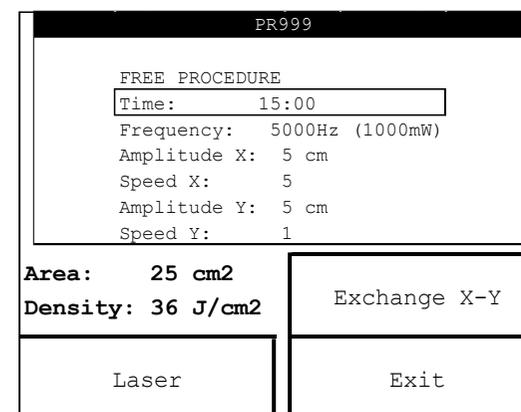

Fig.6
1. press the function taste relative to the FREE PROCEDURE button in correspondence of the screen of fig. 3 ; it appears the main screen of the FREE PROCEDURE button ( see fig. 6 ), that contains the informative window for the default treatment emitted with the scanning laser